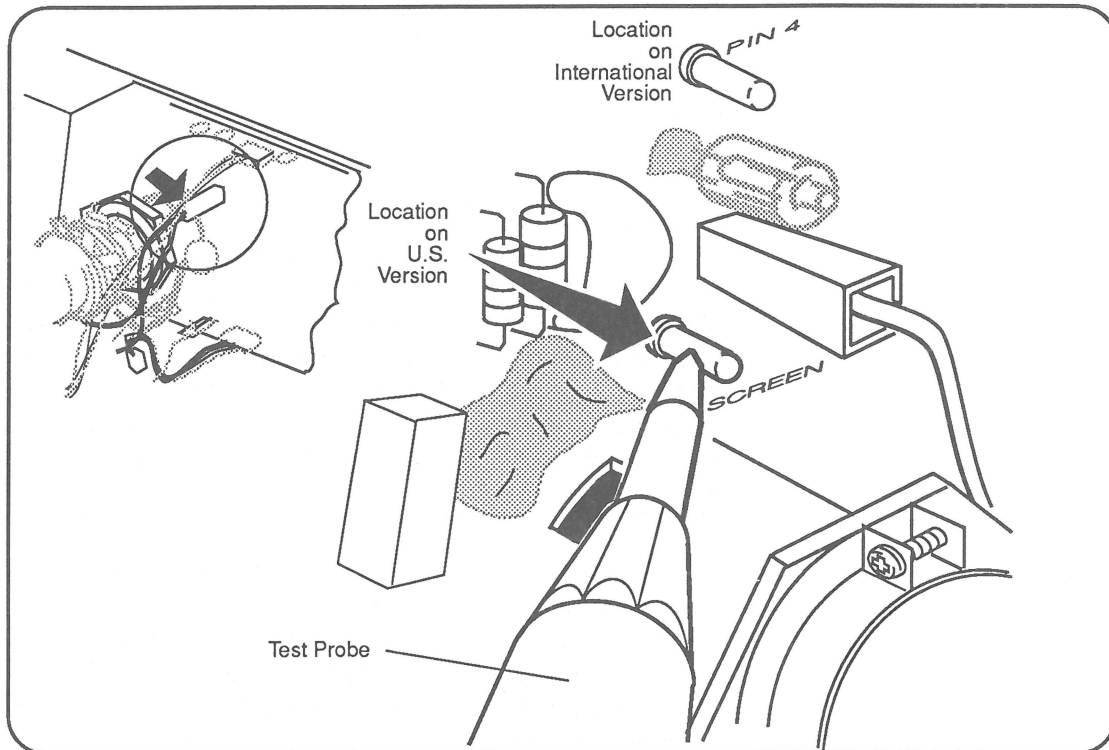

Figure 3-9 Measuring Voltage at the SCREEN or PIN 4 Test Point
7. **Figure 3-9.** Once you have determined which CRT/yoke assembly you have, touch the high-voltage probe to the voltage test point on the CRT video board labeled SCREEN (U.S. version) or PIN 4 (international version), and read the output at the voltmeter. The reading should be: